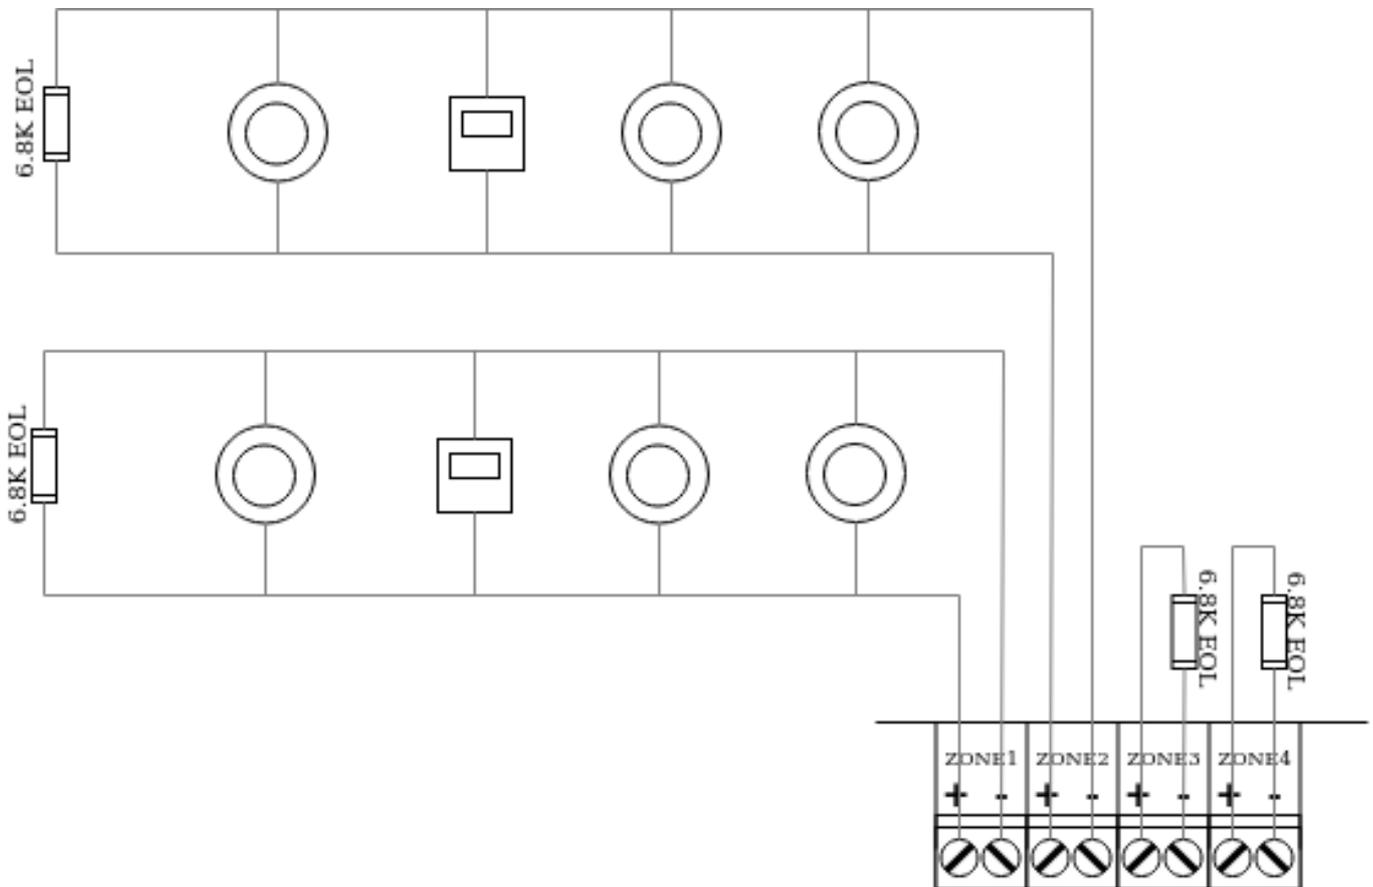

Figure 5. Zone wiring
- 2.1.6 Connect the field wiring. See Figure 5.